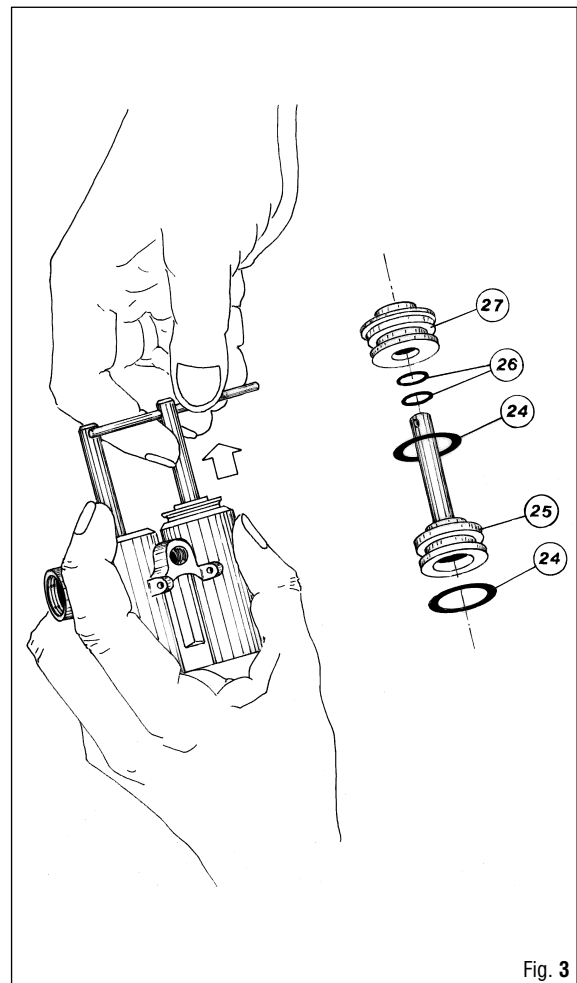

Fig. 3
16. Remove the piston (25) from the piston body (23) (See Fig. 3).
17. Remove the piston cap (27) from the piston (25) (See Fig. 3).
18. Remove the O-Ring (24) from the head of the piston (25) (See Fig. 3).
19. Disassemble the outer O-ring (24) and the 2 inner O-Rings (26) from the piston cap (27). (See Fig. 3).
1. Fit the O-ring (10) inside the quick coupling assembly (7), using the special tool (C-2) if necessary.
**NOTE** MARES RECOMMENDS USING THE SPECIAL TOOL C-2 TO CORRECTLY POSITION THE O-RING (10) INSIDE THE QUICK COUPLING (7).
2. Insert the spring (12) and ball (11) inside the valve connector (13).
3. Using the 7-mm and 14-mm wrenches B-18, lock down the valve connector (13) into the quick coupling assembly (7) (See Fig. 3).